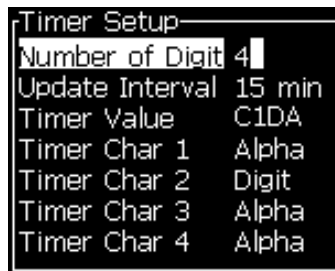

Figure 5-41: Timer Setup
- 4 Set the values according to Figure 5-41.